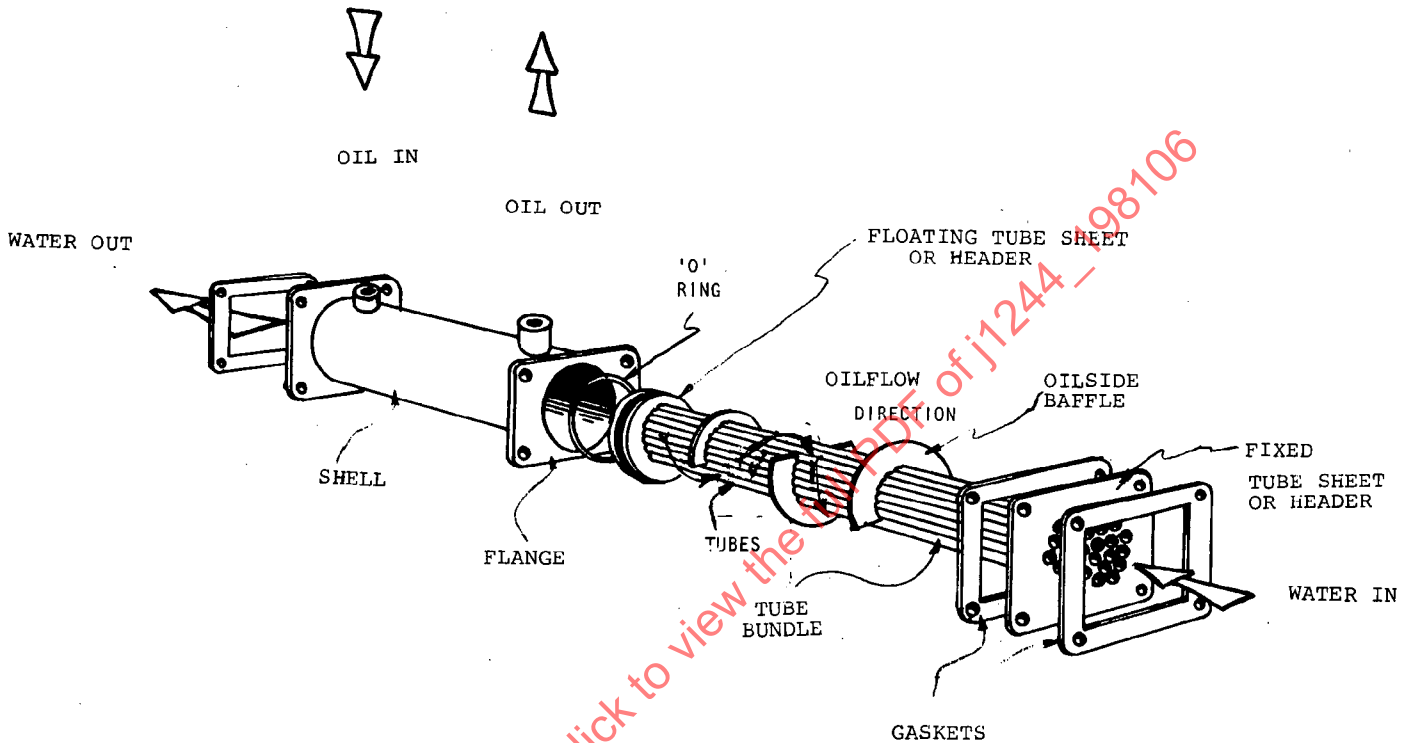

FIG. 2—SHELL AND TUBE REMOVABLE BUNDLE OIL TO WATER COOLER
4.1 **Baffle**—A partition which directs flow of fluids across the core. See Fig. 2 in Nomenclature.
4.2 **Baffle Cut**—Expresses percentage of area removed from baffle. See Fig. 2 in Nomenclature.
4.13 **Header**—This term has a dual meaning. It is sometimes used synonymously with tube sheet or tank. See Figs. 2, 3, and 6 in Nomenclature.
See Fig. 2 in Nomenclature.
4.26 Tube Sheet—See Figs. 2 and 3 in Nomenclature.